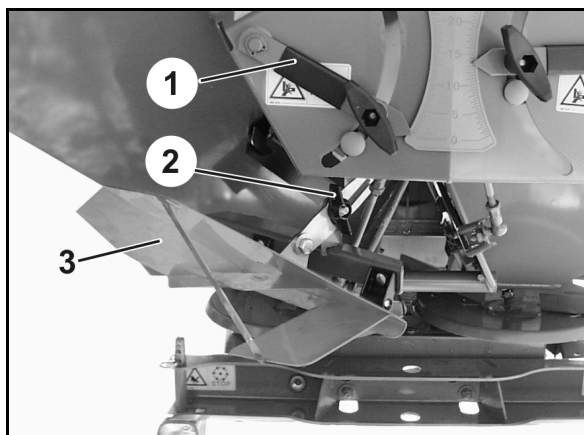
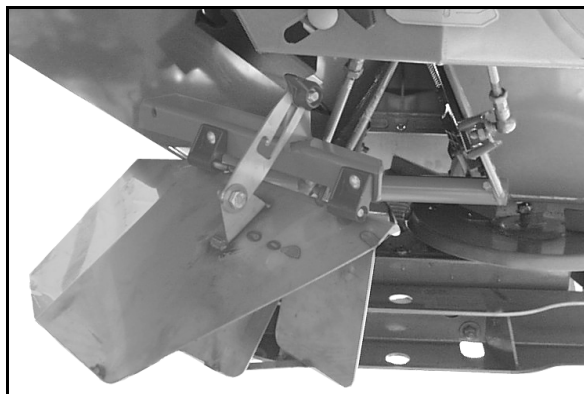

Fig. 82
Fig. 83
- Close the left slider (Fig. 82/1).
2. Release the wing nuts (Fig. 82/2).
3. Swing the border spread deflector (Fig. 82/3) down from inoperative position to operating position (Fig. 83).
4. Tighten the winged nut (Fig. 82/2).